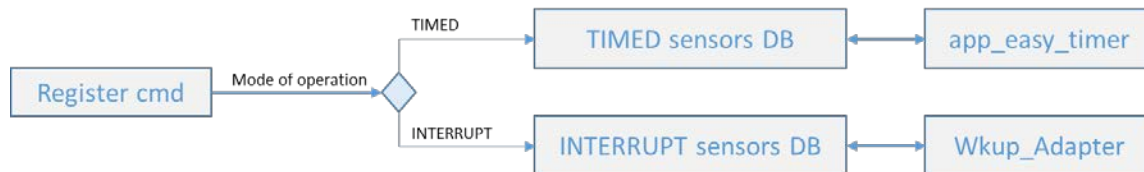

Figure 14: SI Registration Path
- The "**Sensor Interface**" module will follow the path described in Figure 14 to achieve this: